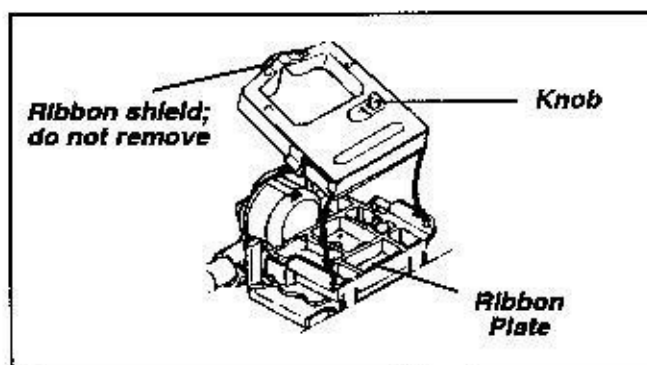

Figure 3-4
1. With the knob facing up, tilt the ribbon cartridge onto the printhead plate so it slides into the area of the plate is closest to the front of the printer (see Figure 3-4).